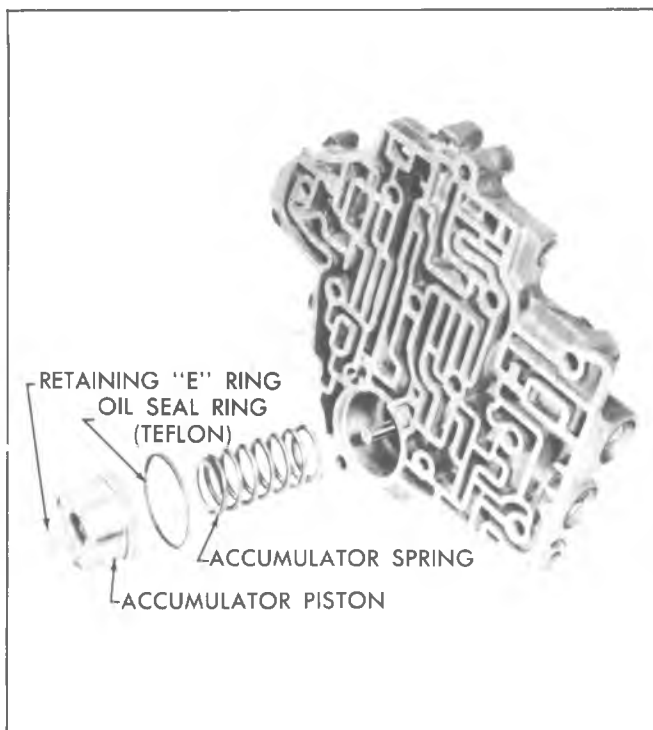

Fig. 7A-66C—Front Accumulator Assembly - Exploded View
4. Remove front accumulator piston and spring (Fig. 7A-66C).